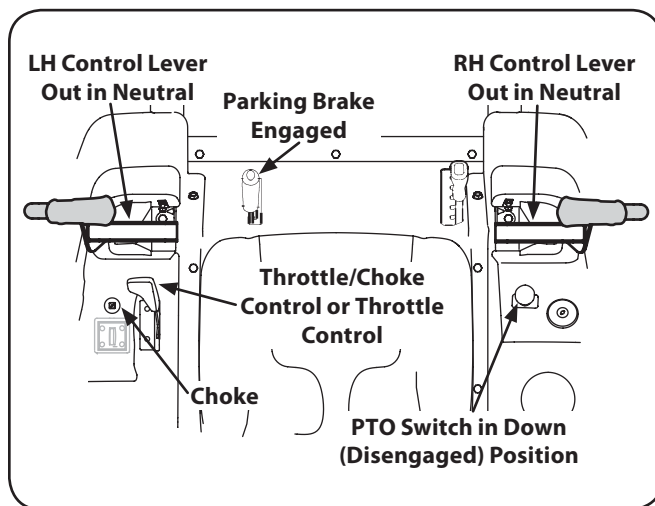

Figure 5-1
2. Engage the parking brake. Refer to Figure 5-1.
3. Make certain the PTO switch is in the disengaged (down) position. Refer to Figure 5-1.